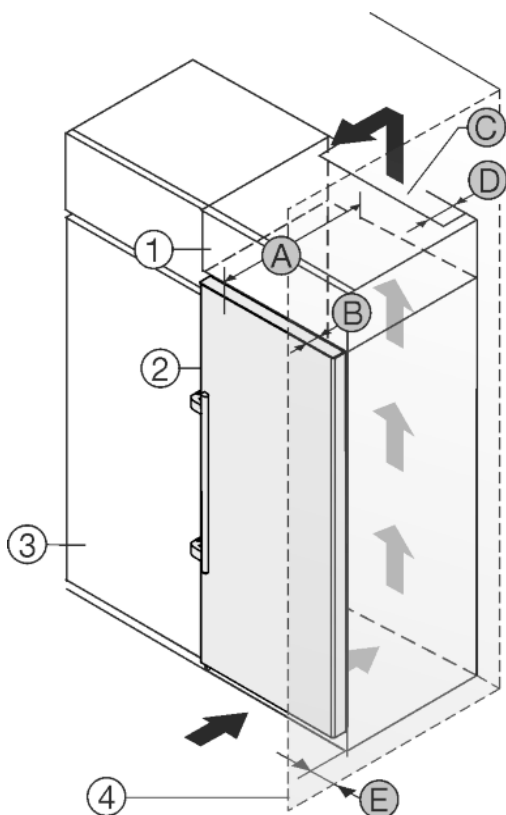

Fig. 23
The appliance can be built into kitchen units. A top cupboard *Fig. 23 (2)* can be added above the appliance in order to bring the appliance *Fig. 23 (1)* up to the height of the fitted kitchen units.
The appliance can be installed right next to the kitchen cabinet *Fig. 23 (3)*. The appliance must stick out by the depth *Fig. 23 (B)* from the front of the cabinet so that the doors can be opened fully. The appliance may protrude further depending on the depth of the kitchen cabinets and whether wall spacers are used.
- There must be a ventilation shaft with the depth *Fig. 23 (D)* at the back of the top cupboard over the entire width of the cupboard.
- The ventilation shaft *Fig. 23 (C)* must be observed under the ceiling.
If the appliance is installed with the hinges next to a wall *Fig. 23 (4)* the distance *Fig. 23 (E)* between the appliance and the wall must be observed. This is how far the handle protrudes when the door is open.